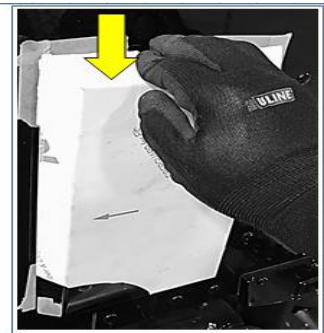

Figure 6. Install Top Edge
7. Install top edge: Pull down vent cover (see figure 6).